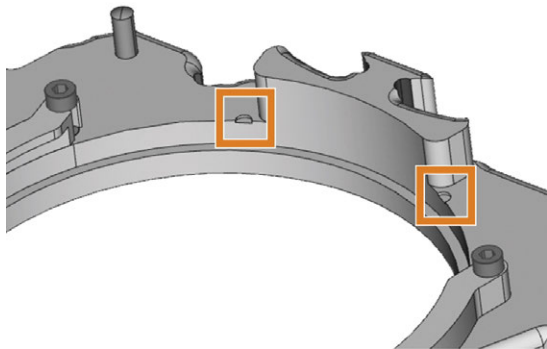

FIG. 30 RECESSES (MARKED ORANGE) TO BE ALIGNED WITH MARKINGS FOR SAFER REMOUNTING
- d. If the disc has been marked for remounting, rotate the disc until the marking is aligned with the corresponding recesses (marked orange) in the blank frame (↗ Fig. 30 on the facing page).